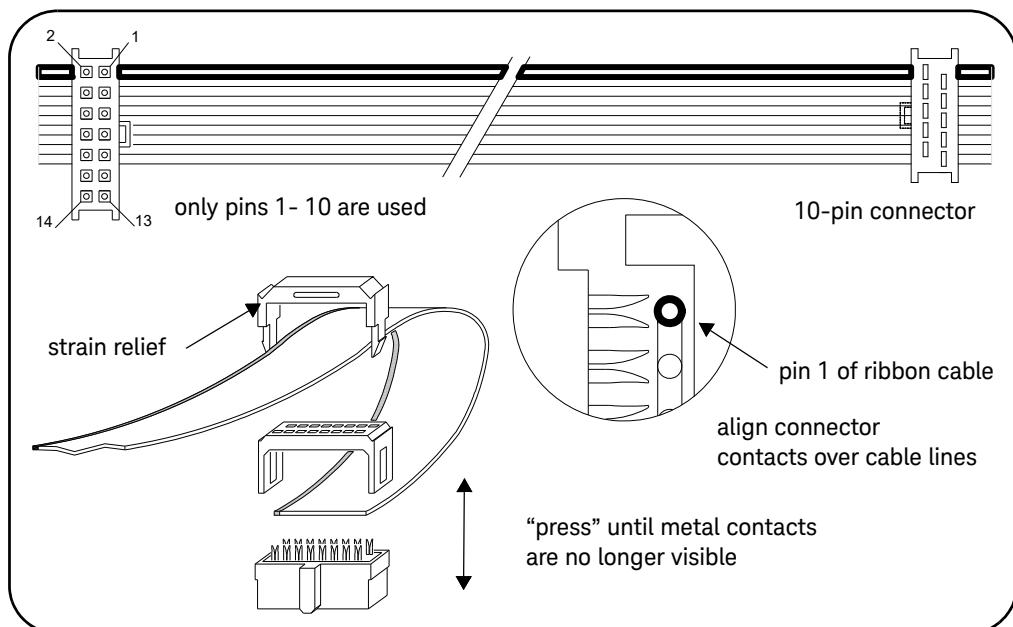

Figure 1-5 Y1158A 14-pin to 10-pin Connector Orientation and Cable Routing.
- 2 Position the ribbon cable connectors as shown in Figure 1-5. Route the cable **through** the connectors, noting the location of pin 1 on the cable. By convention, pin 1 is indicated in red (the dark line in the drawing).
- 6** Fasten the strain relief clamps over the cable and into the ribbon cable connectors as shown in Figure 1-5. Remove any excess cable after the clamps are in place.